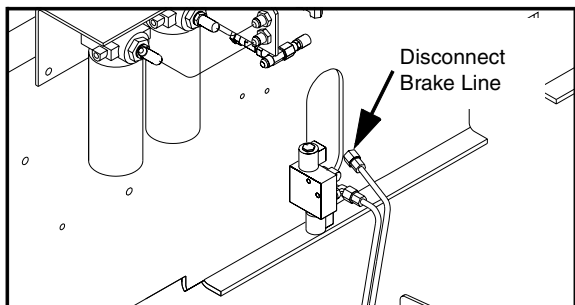
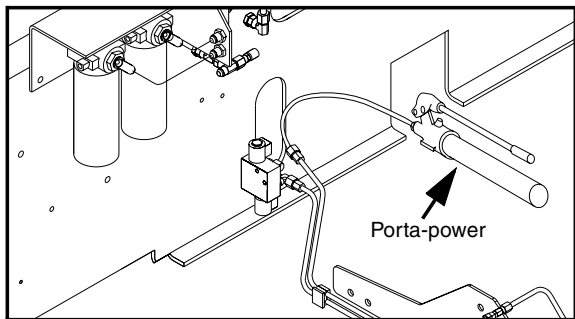

Figure 49. Preparing to release brakes
Figure 50. Releasing Brakes with Porta-power
- 5) Disconnect tube from brake solenoid valve located on rear bulkhead, right hand side. Place a cap on the valve fitting to keep dirt out of the hydraulic system. (Figure 49) and (Figure 50)